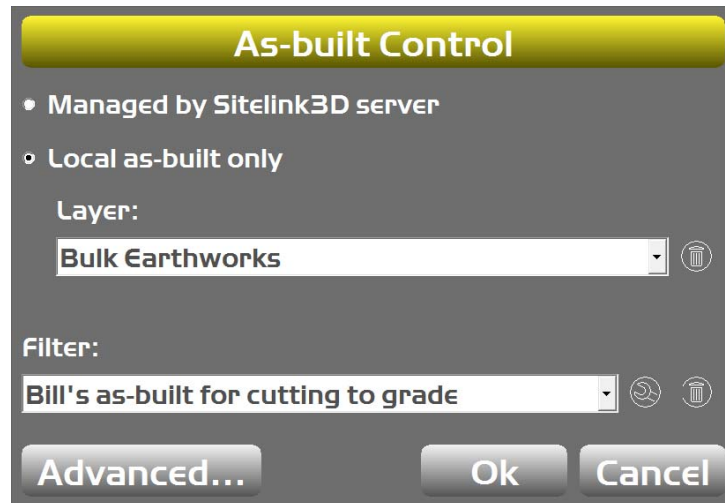

Figure 49: As-built Control
1. Press the Power button on the display, then tap **Control ▶ As-built control**. The **As-built Control** screen appears (Figure 49).